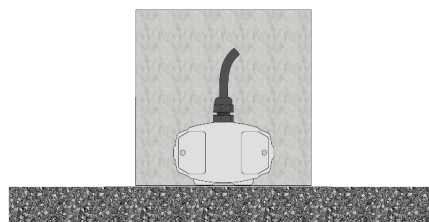

Figure 28. Compact Sensor Module Position of Calibration Step 2
- Locate the sensor module as following Figure 28. The sensor is ready for user to perform calibration step 2.